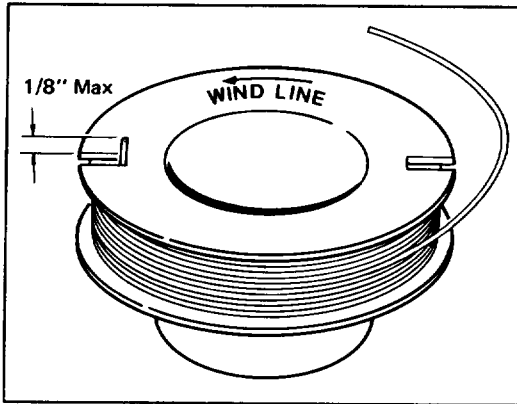

Figure 11
A. Hook one end of line into groove on spool, allowing no more than 1/8" to protrude. Wind line in direction of arrows on spool in level rows between spool flanges (Fig. 11).